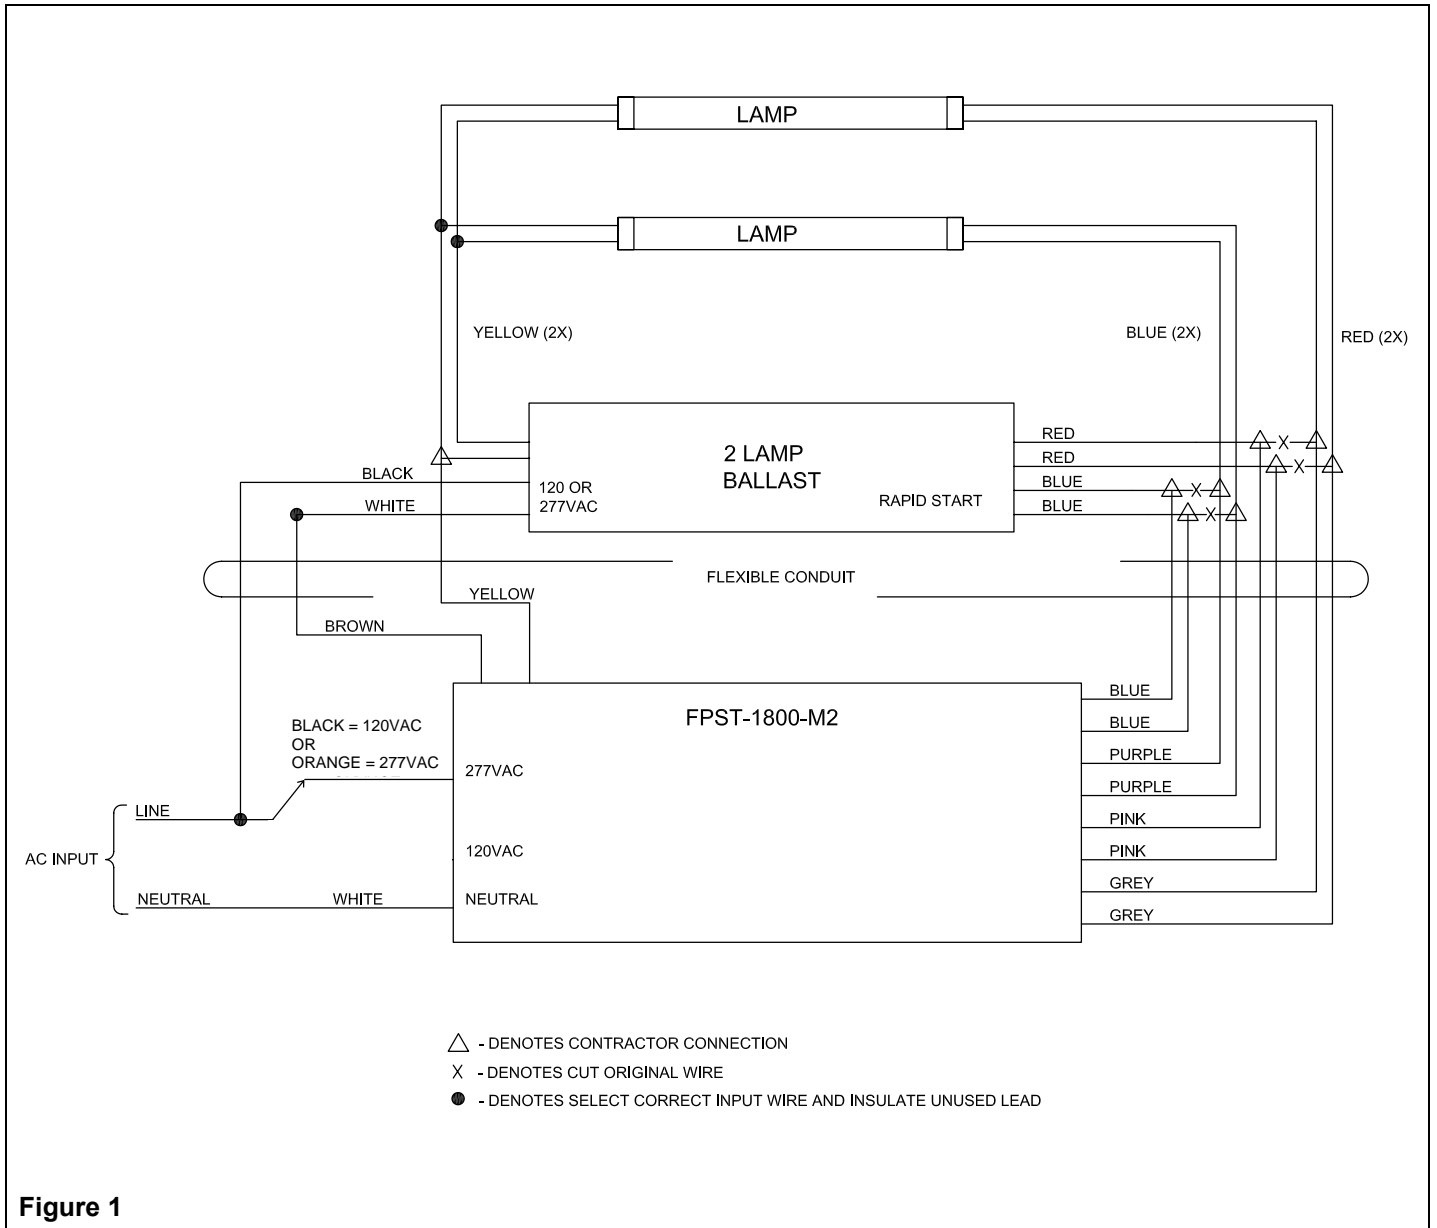

Figure 1
4. Remove conduit knockout in existing fluorescent fixture in an area near AC ballast wiring. Install flexible conduit from FPS pack to fixture, and connect per figure 1 on back. Install lamps in fixture.